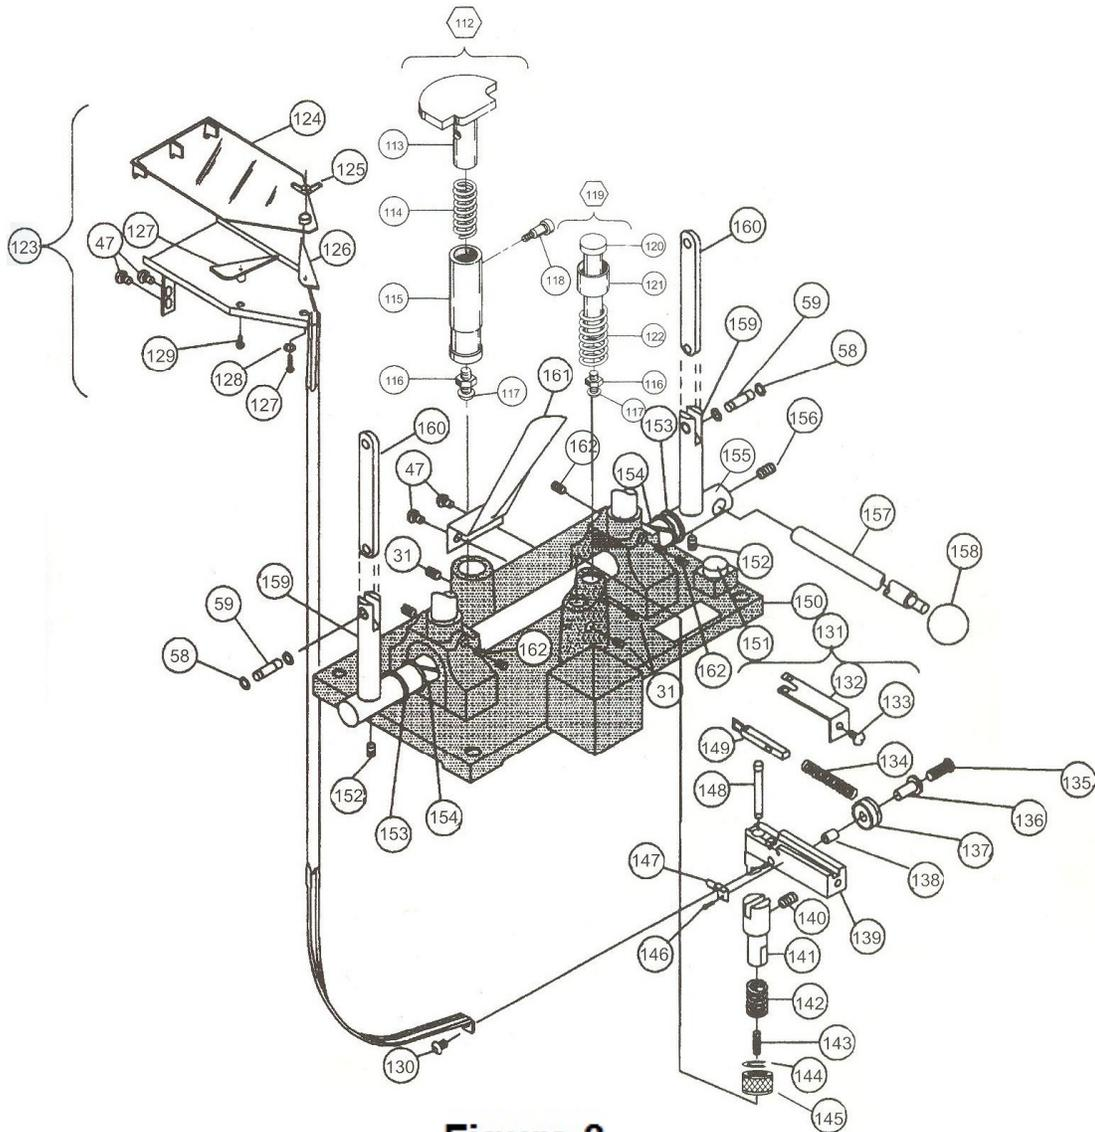

Figure 3
5. Either remove the Snap Ring on the pin located in the Lower Actuating Arm (Fig 3 #58), or remove the socket head cap screw beneath the right side of the Crosshead holding the lower link in place (Fig 3 #61).